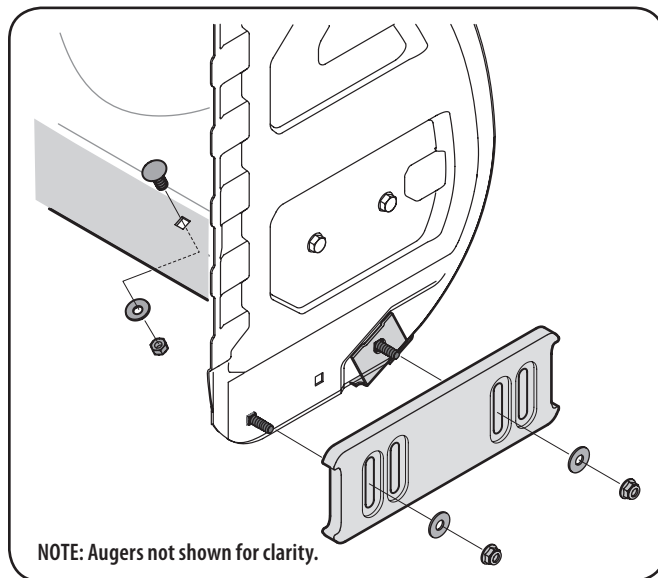

Figure 6-1
2. Reassemble new skid shoes with the four carriage bolts (two on each side) and hex flange nuts. Refer to Figure 6-1.